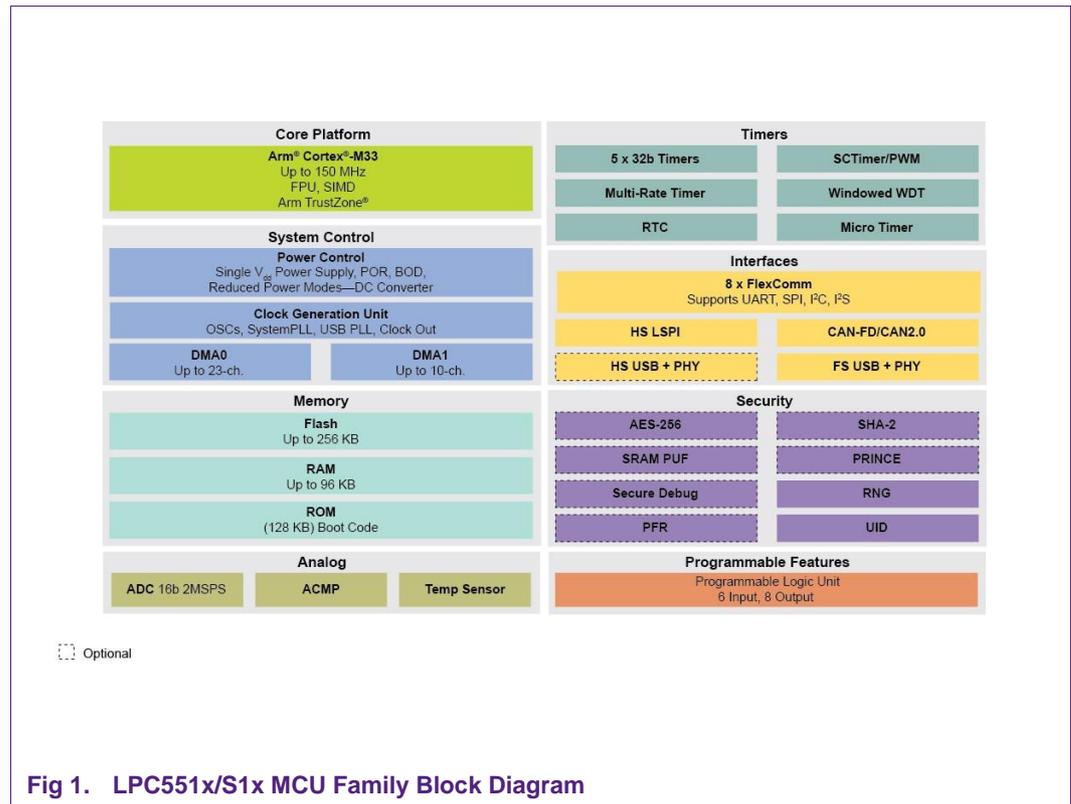

Fig 1. LPC551x/S1x MCU Family Block Diagram
- Fig 1. LPC551x/S1x MCU Family Block Diagram3